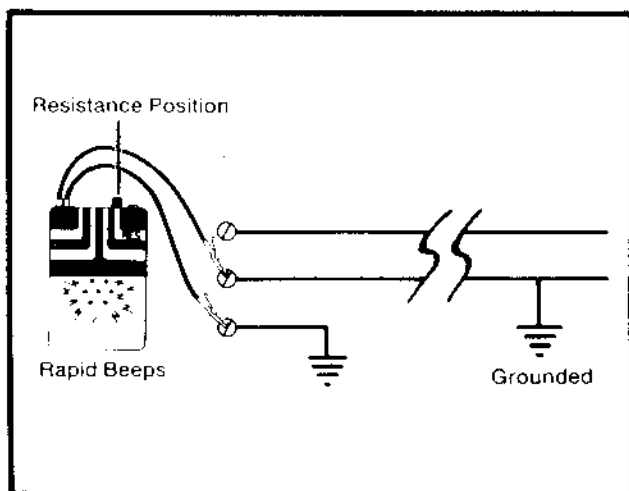

Figure 6 Testing for Grounds
- (1) Connect the 100B Test Set as shown in Figure 6.